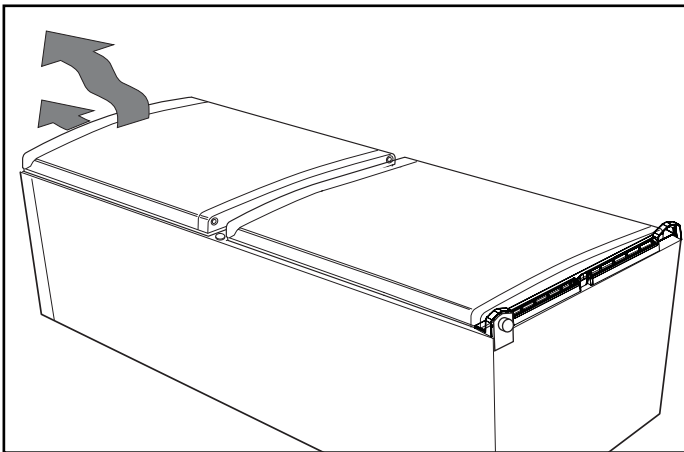

Fig.3
4. Gently lift and slide the top door away from centre hinge pin and carefully place to one side. *Fig. 3*